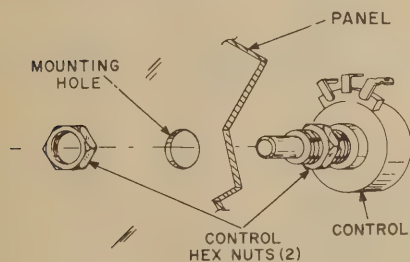

FIGURE 3. HOW TO MOUNT A CONTROL
- (✓) Mount R-25, 10K ohms OHMS ADJUST potentiometer, in the large hole in the left center of the panel. Use two nuts to mount this control as shown in Figure 3.